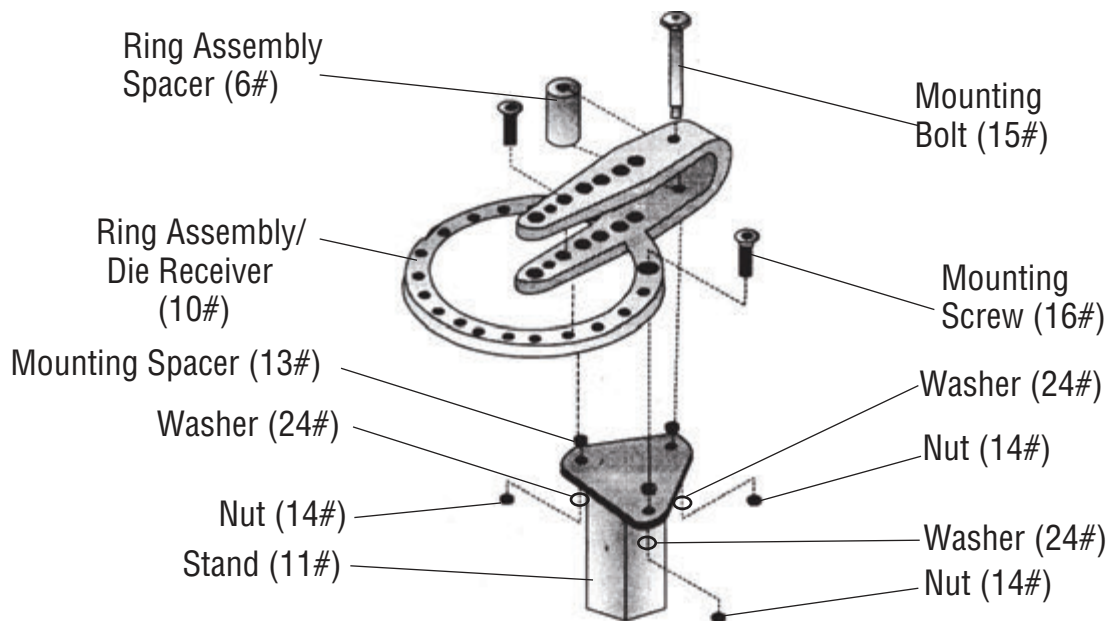

Figure 1
- Step 2) Place the three Mounting Spacers (13#) over each hole on the top of the Stand (11#)-see **Figure 1** .
- Step 3) Place the Ring Assembly/Die Receiver (10#) over the three Mounting Spacers (13#) so that the two holes on the Ring Assembly/Die Receiver (10#) line up with the corresponding Mounting Spacers (13#). Insert two Mounting Screws (16#) through the Ring Assembly/Die Receiver (10#), Mounting Spacer (13#) ,Stand (11#) and Washers(24#).Tighten on Nuts (14#) - see **Figure 1**
- Step 4) Place the Ring Assembly Spacer (6#) inside the arms of the Ring Assembly/Die Receiver (10#) between the back two holes-see **Figure 1** . Insert the Mounting Bolt (15#) through the Ring Assembly/Die Receiver (10#), through the Ring Assembly Spacer (6#) and through the bottom hole in the Ring Assembly/Die Receiver. Tighten it into place with the remaining Nut (14#).